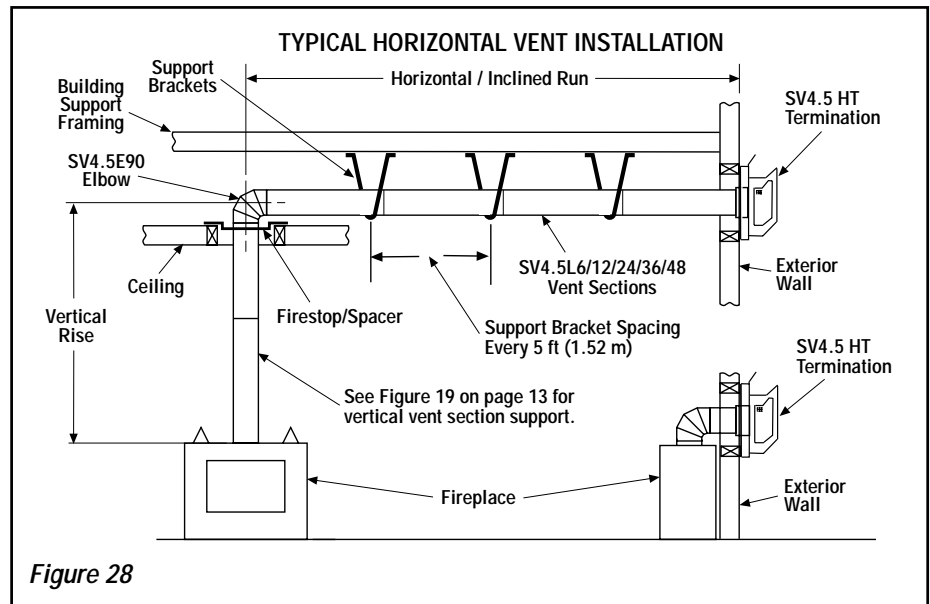

Figure 28
Figure 28, and Figures 31 to 33 on pages 16, 18 and 19 and their associated Horizontal Vent Table illustrate the various horizontal venting configurations that are possible for use with these appliances. **Secure Vent** pipe applications are shown in these figures; **Secure Flex** pipe may also be used. A Horizontal Vent Table summarizes each system's minimum and maximum vertical and horizontal length values that can be used to design and install the vent components in a variety of applications.
I. Continue installation of horizontal/inclined sections - Continue with the installation of the straight vent sections in horizontal/inclined run as described in **Step E**. Install support straps every 5 ft. (1.52 m) along horizontal/inclined vent runs using conventional plumber's tape. See **Figure 28**. **It is very important that the horizontal/inclined run be maintained in a straight (no dips) and recommended to be in a slightly elevated plane, in a direction away from the fireplace of 1/4" rise per foot (20 mm per meter) which is ideal, though rise per foot run ratios that are smaller are acceptable all the way down to at or near level. Use a carpenter's level to measure from a constant surface and adjust the support straps as necessary.**